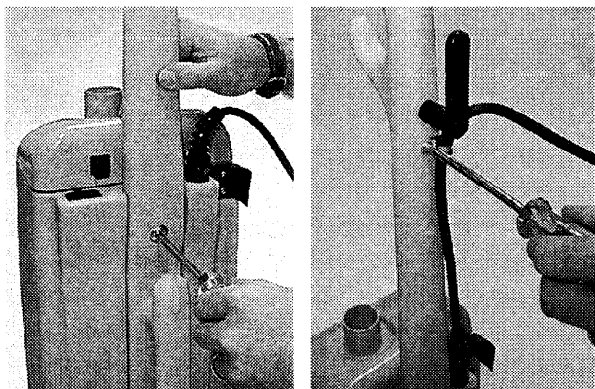

FIG. 2
3. Align handle on bag compartment and replace screws securely (Figure 2).
- Secure power cord with factory-installed cord clamp, located on handle (Figure 2).